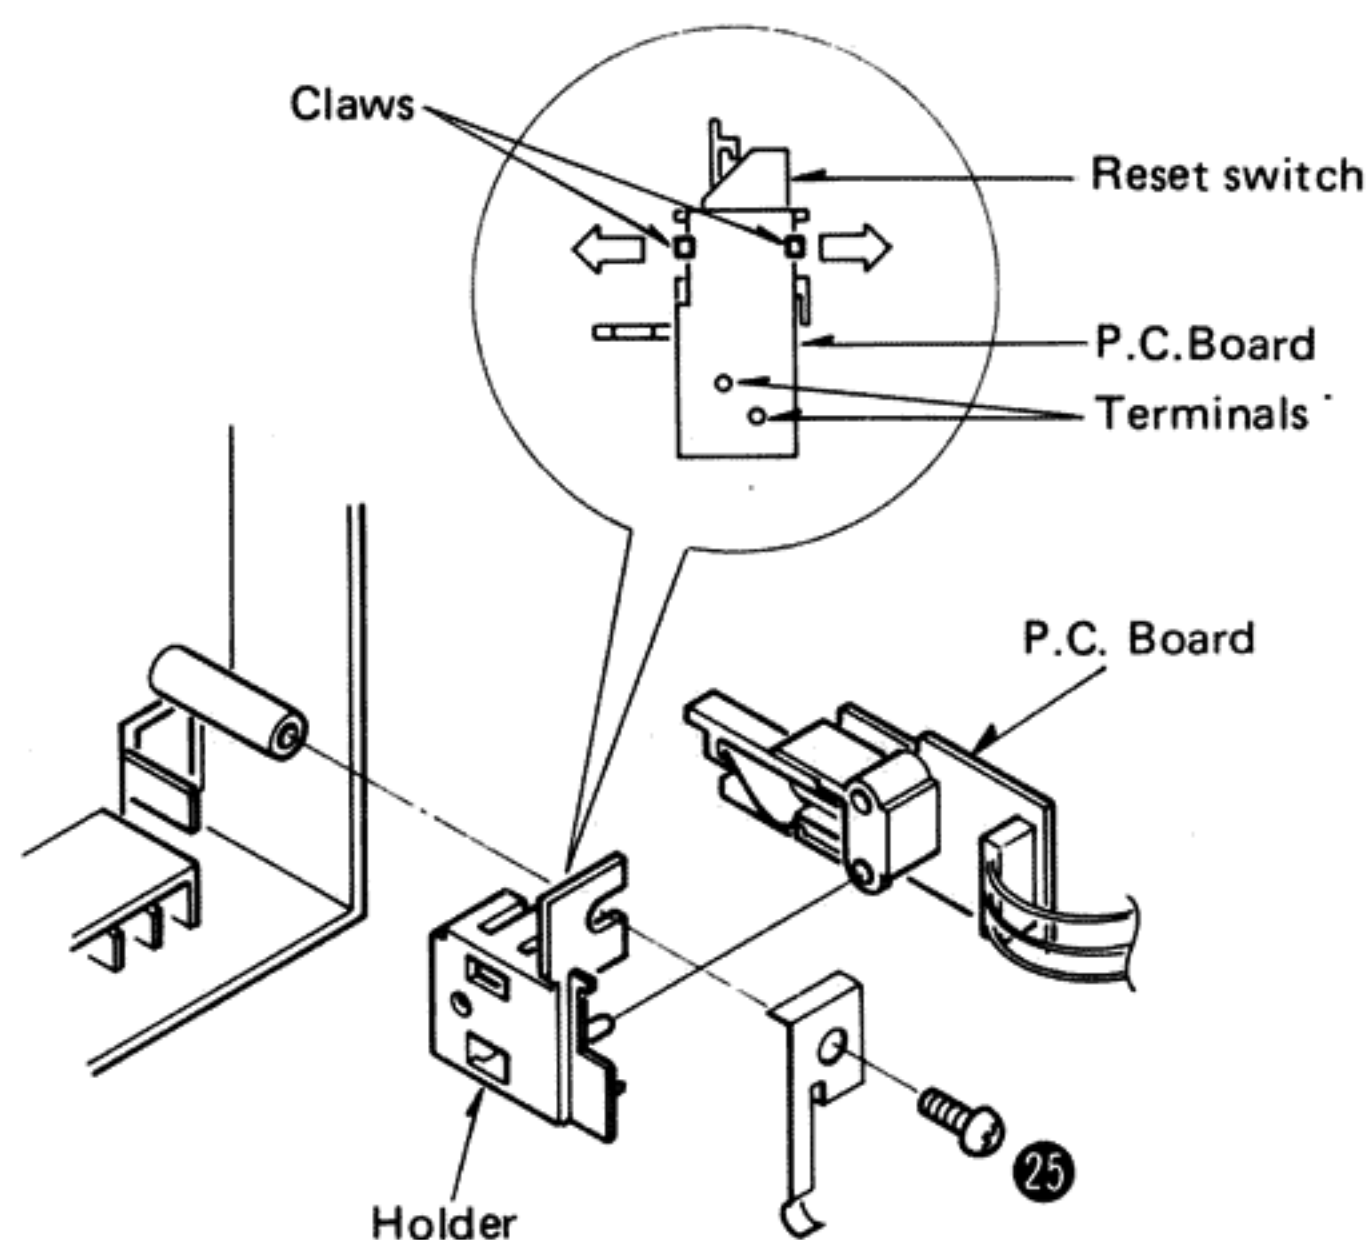

Fig. 10
2. Remove the switch holder setscrew (Fig. 10: 25).